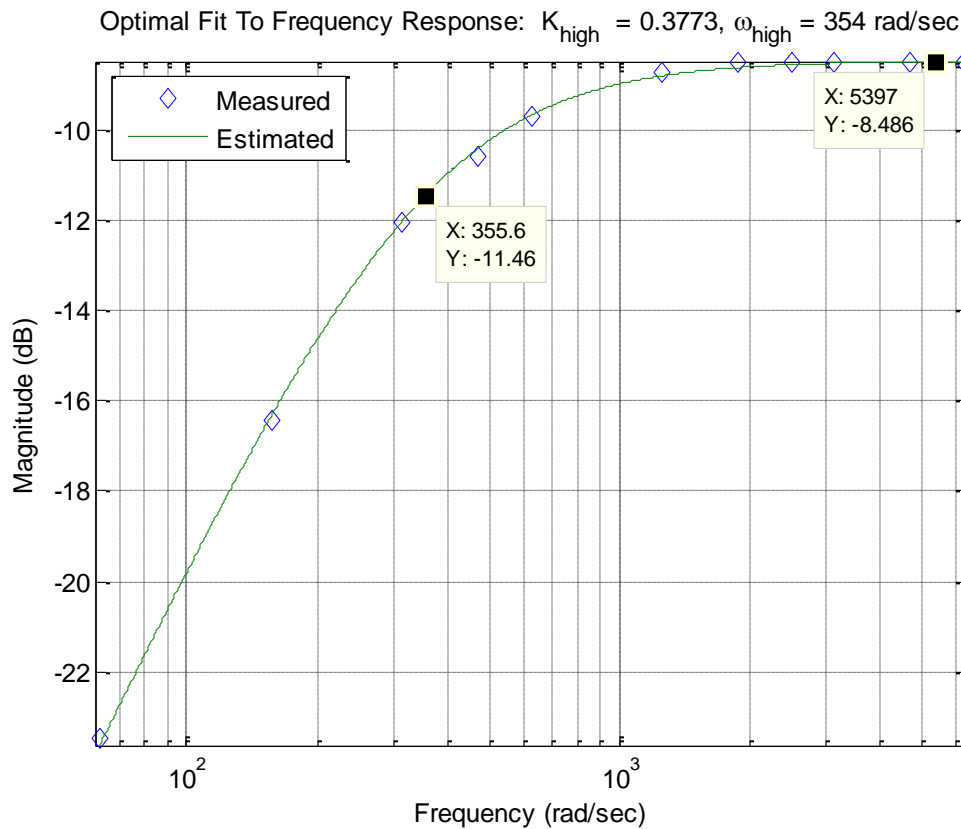

Figure 5: Highpass filter with a cutoff frequency of approximately 354 (56 Hz).
- e) In the Matlab command window type **model\_high( data, 0.3, 100\*2\*pi);** You should get results similar to that shown in Figure 5. Click on the Datatip icon (just below Desktop) so identify points on the graph. Once you have identified the maximum value, you may have to use a right click and create a new data tip(it usually helps if you right click when you are on a current datatip). You can fine tune your datatip locations by using the cursor keys on your keyboard. Your data points should be from the peak value to a value 3 dB lower. Include this graph in your memo. Be sure your graph has two datatip points.